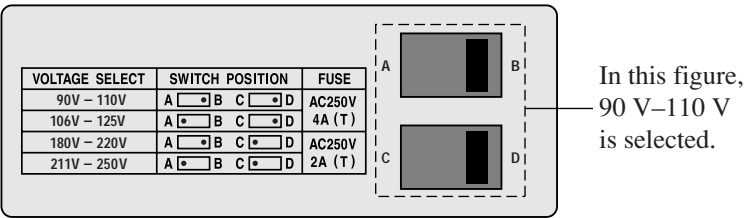

Fig. 1-3 Input voltage switch at the bottom of the PMR series
As shown in Fig. 1-3, four line voltage ranges are available for the PMR series. Check the default settings to determine whether the voltage is suitable for your power supply. Use a power fuse appropriate for your line voltage range.
3. Check the input voltage switch at the bottom of the power supply to determine whether it is set at an appropriate voltage for the power supply. To change the setting, follow the instructions on the SWITCH POSITION indicator. (Fig. 1-3)